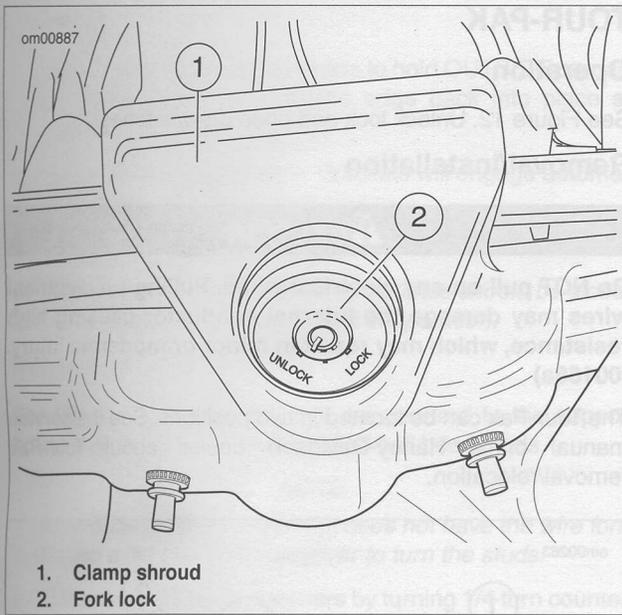

Figure 10. Fork Lock: FLHR/C/S
See Figure 10. The FLHR/C/S has a fork lock at the top of the steering head, behind the headlamp nacelle and inset in the handlebar clamp shroud.
2. See Figure 10. Insert key and turn key counterclockwise to lock.